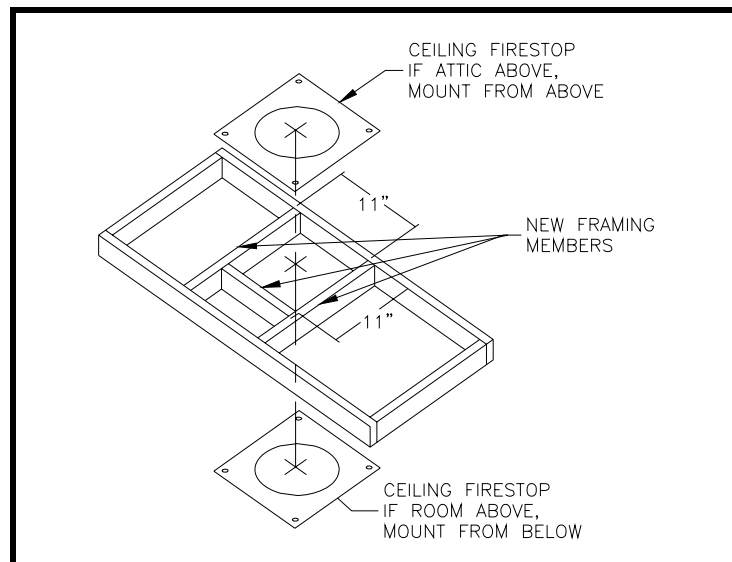

Figure 9: Ceiling Firestop Location
- Frame the hole with framing lumber the same size as the ceiling joists. Refer to the Figure 9. Position firestop as shown in the Figure 9. If attic is above, mount firestop on top of framing. If room is above, mount firestop on the bottom of framing. Secure with nails or screws.